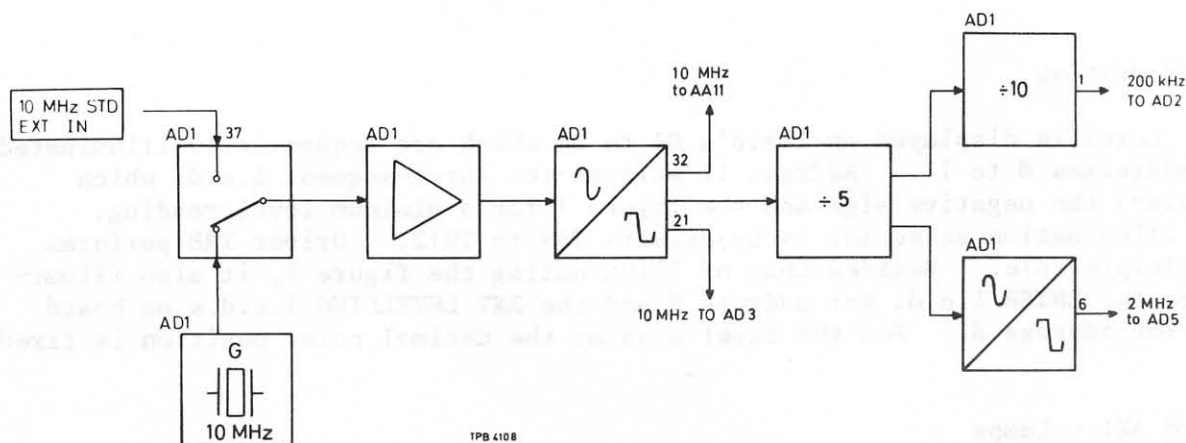

Fig. 27 Crystal oscillator circuits
97. A temperature compensated crystal oscillator provides the internal 10 MHz standard on local oscillator board AD1. This standard may be automatically disabled by the connection of an external standard, e.g. from the receiver for synchronous operation, to the 10 MHz STD - EXT IN socket. An output at 10 MHz is provided for the frequency tripler on board AA11, while for internal use a 10 MHz output provides the reference for the first p.l.l. mixer on board AD3. The 10 MHz signal is then divided by 5 and the resulting 2 MHz is taken to the second p.l.l. mixer on board AD5. Further division by 10 results in a 200 kHz output and this is fed to the first p.l.l. phase detector on board AD2. Fig. 27 shows the circuit block diagram.